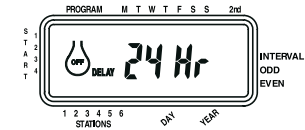

Figure 15: Display Showing Rain Delay
- To cancel the rain delay mode, press clear [See Figure 15].